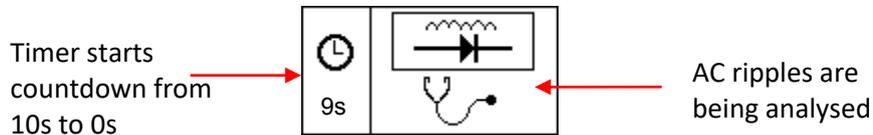
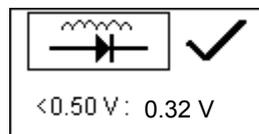

Fig. 52
Fig.53
14. Press  key to continue and the display will change to (Fig. 52 ) as shown below:
15. The timer shown on the display (Fig.52) will start to countdown from 10s to 0s. As soon as it reaches zero second, the results will automatically display as example shown below (Fig.53).